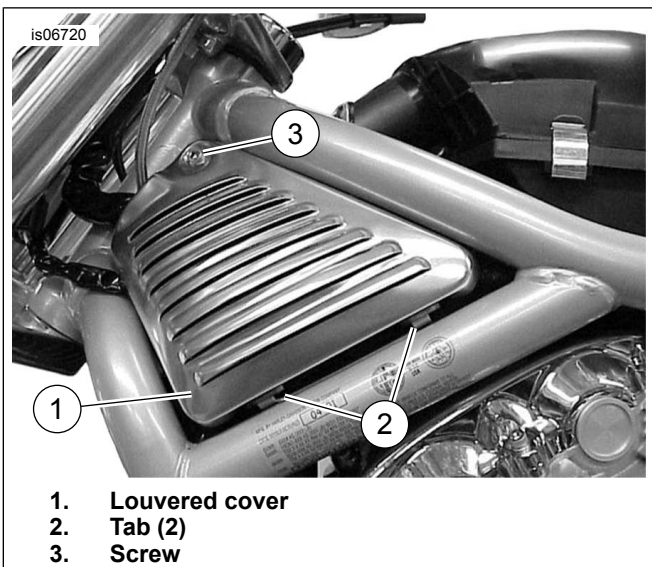

Figure 11. Left-Side Louvered Cover (2002-2003 V-Rod Shown)
- See Figure 11. Remove the screw (3) fastening the front left louvered cover (1) to the motorcycle. Lift the louvered cover off the tabs (2) to remove the cover.
1. See Figure 11. Remove the screw (3) fastening the front left louvered cover (1) to the motorcycle. Lift the louvered cover off the tabs (2) to remove the cover.